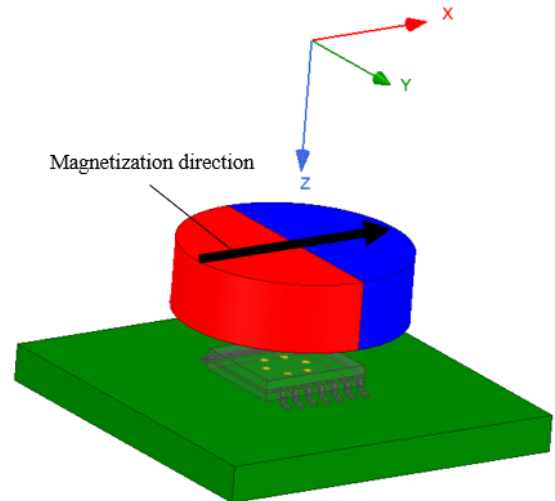

Figure 3: Isometric view of the A33020 and the cylinder magnet with diametrical magnetization
- Two-pole ring, cylinder, or block magnet with diametrical magnetization (Figure 3). The typical magnetic field observed by these channels is presented in the Input Magnetic Flux Density Definitions section.